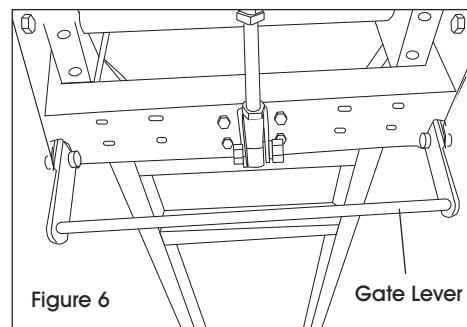

Figure 6
5. Lift gate lever to lower gate onto steel angle. (See Figure 6)